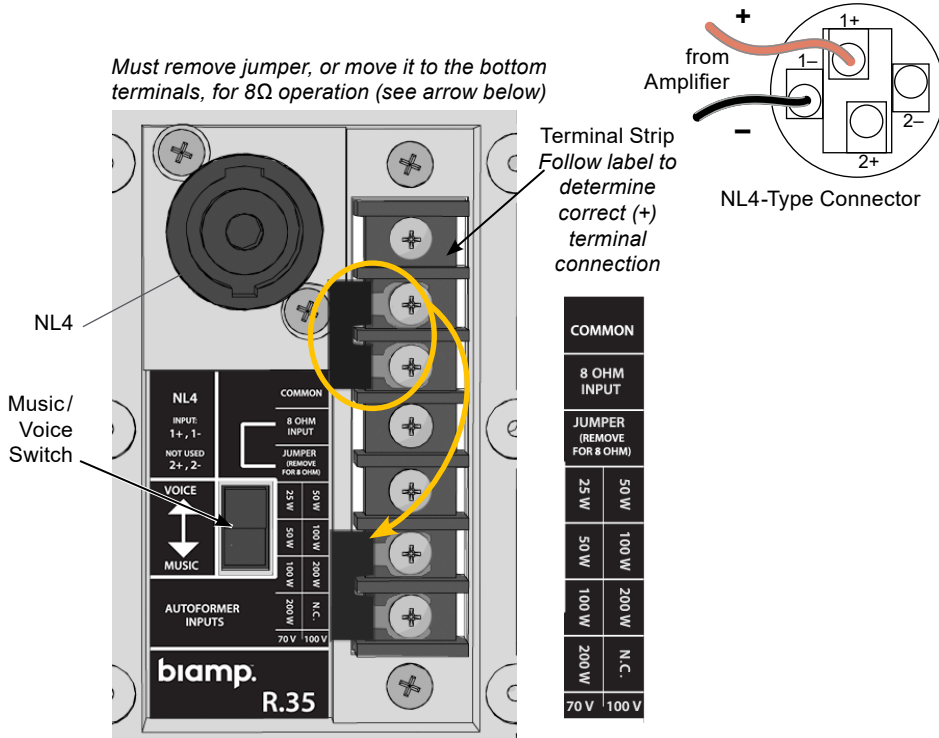

Figure 5. R.35 input panel
6. Insert the cable through the gland nut and weather cover and wire the unit for your system voltage. Refer to the label - see Figure 5. There is a preinstalled jumper that should be left in the marked position for 70/100V use, or moved to the bottom terminals for 8Ω operation. ***Failure to do so can result in damage to the loudspeaker and/or amplifier.*** Set the Music/Voice switch to the desired position. ***The NL4 connection can only be used for low impedance 8Ω operation.***